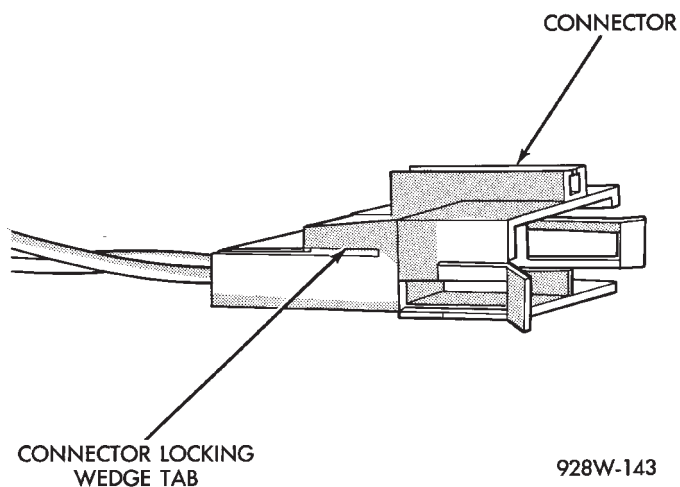

Fig. 10 Connector Locking Wedge
(3) Remove the connector locking wedge, if required (Fig. 10)